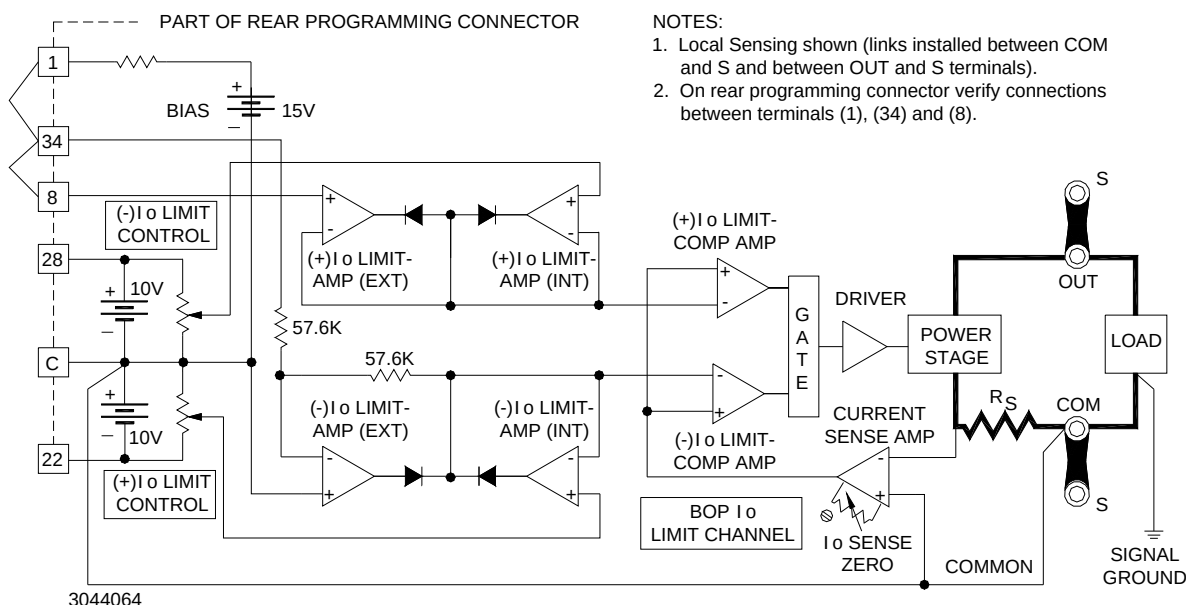

FIGURE 3-3. BOP ($\pm$) CURRENT LIMITING CIRCUIT (LOCAL CONTROL, LOCAL SENSING)
- $(\pm) I_O$ Limit Circuits: See Figure 3-3 and PAR. 3.3.2 for local control.
Figure 3-3 shows the Current Limiting circuit configured for local sensing and local (front panel) control.